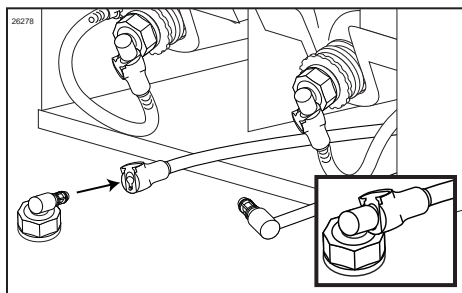

Figure 63
11. Attach the Syrup Bag Adapter to the connector fitment on the Pump Flush Adapter beneath the #8 syrup tray. (See Figure 63.)